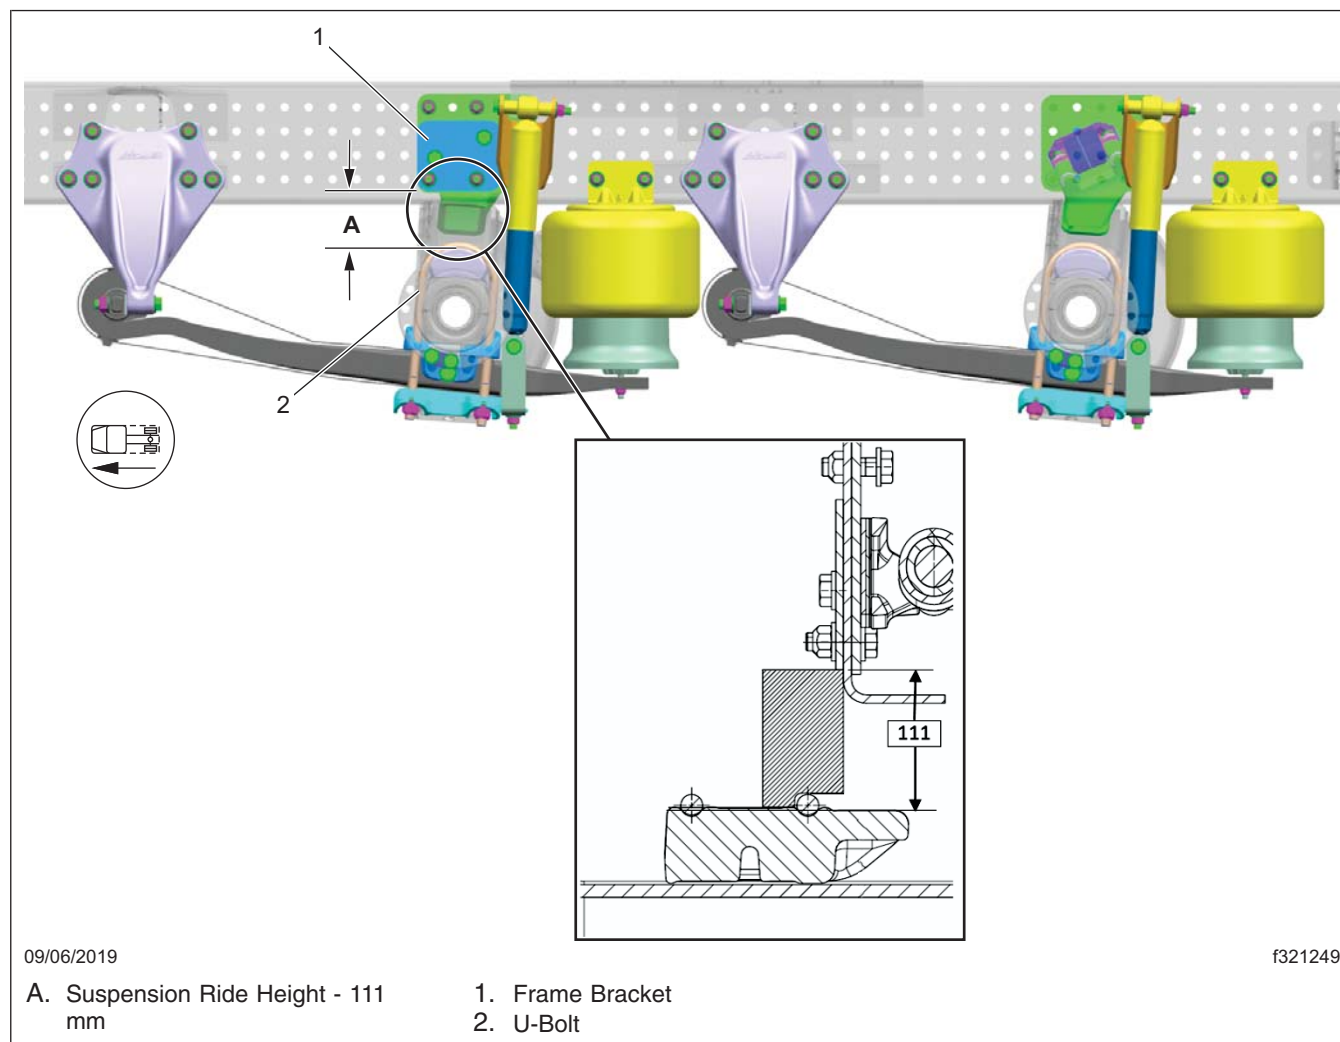

Fig. 4, Measuring the Suspension Ride Height
12. Measure the suspension ride height at the left-hand side clamp group. See Fig. 4.